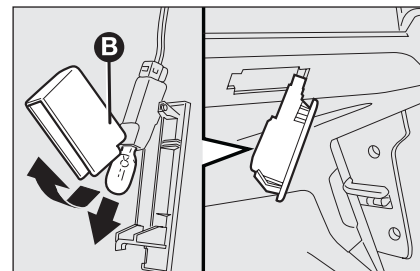

fig. 43
- open the protection cover **B-fig. 43** and replace the snap-fitted bulb;